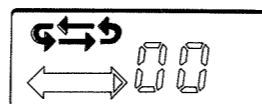

Fig. 1-3e
- Select continuous repetition of both sides by selecting the continuous-reverse mode with key ②② (Fig. 1-3e).